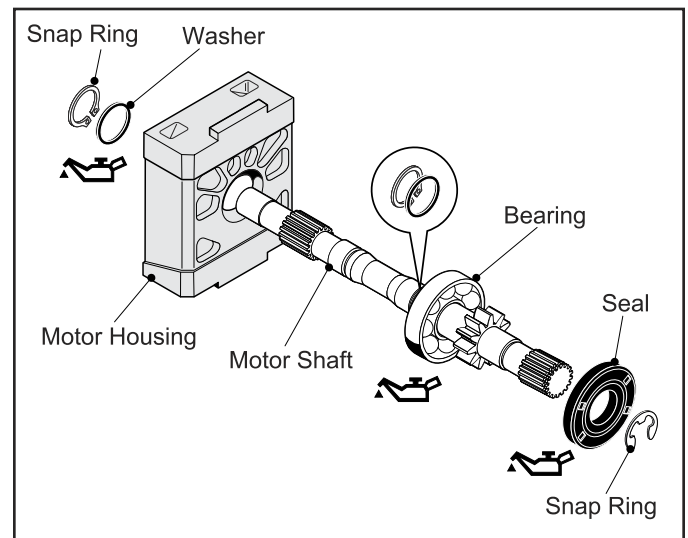

Fig. 25, Motor Shaft Assembly
3. Installation involving a new Bearing: (Fig. 25)
4. Install a new Seal onto the Motor Shaft. (Fig. 25)
5. Install Snap Ring in front of new Seal. (Fig. 25)